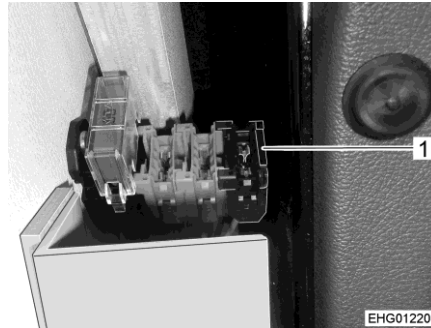

Fig. 132 Fuse holder in left-hand drive vehicles (Ford)
- Replace the fuse on the fuse holder (Fig. 132,1).